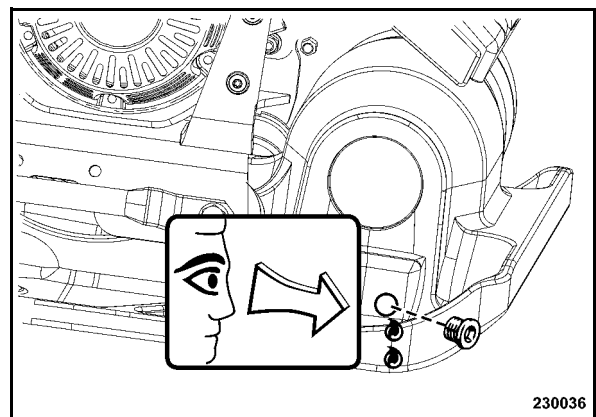

Fig. 65
- Fill in oil to the lower edge of the bore (Fig. 65).